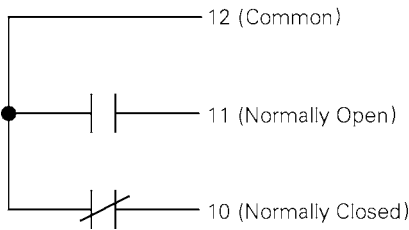

Figure 14. Bell Alarm with Lockout connections on the right terminal block. The contacts are shown in the reset state.
In addition, the Bell Alarm with Lockout provides normally open (NO) and normally closed (NC) alarm outputs available at the terminal block on the right side of the switch, as illustrated in Figure 14. These outputs are returned to their normal state